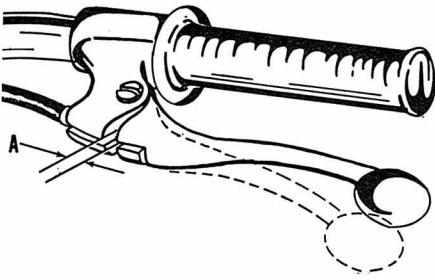

Fig. Y3-10—The clutch should be adjusted to provide  $\frac{1}{16}$ – $\frac{1}{8}$ -inch free play at (A).
**CLUTCH CONTROLS.** The clutch hand lever should have 1/8-1/4 inch (2-3MM) free play at (A—Fig. Y3-10). To adjust, remove the rubber plug from engine left side cover on YA-6 models or the carburetor (right side) cover on YL-2, YL-2C and L5T models. Loosen the lock nut and turn the adjusting screw (under the rubber
plug) until slight resistance is felt, then back the screw out  $\frac{1}{4}$  turn and tighten lock nut. Adjust the cable guide to provide the correct amount of free play at (A—Fig. Y3-10).